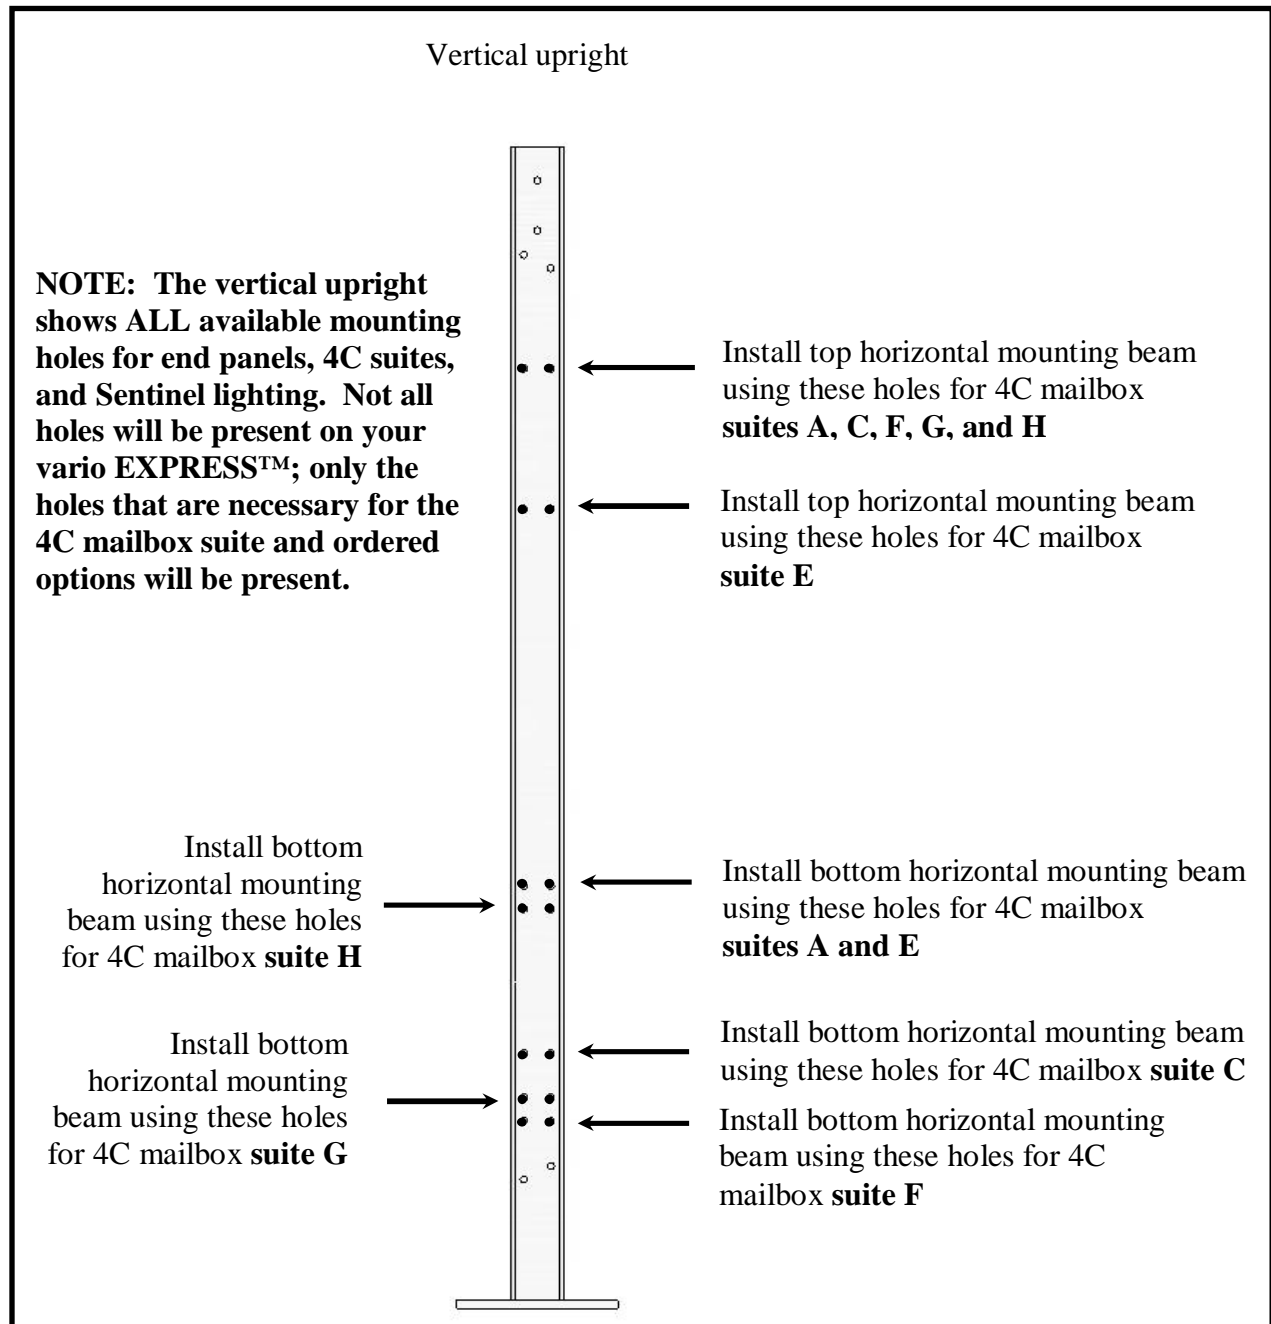

Figure 7 – Horizontal Beam Locations by Florence versatile™ 4C mailbox suites
- a) Determine which holes in the vertical uprights will be used to mount the horizontal beams. **The position of the horizontal beam placement is dependent on which Florence versatile™ 4C mailbox suites will be installed in the mail station.** This is to ensure compliance with USPS STD-4C installation requirements referenced on page 2. See *Figure 7* below.